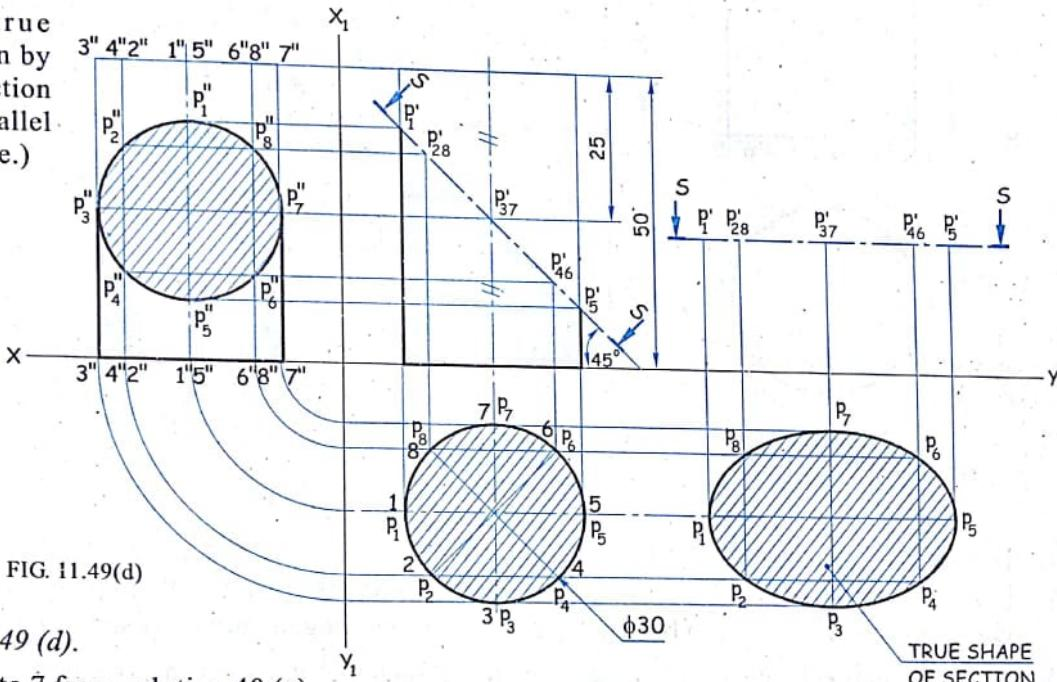

FIG. 11.49(d)
Refer figure 11.49 (d).
- (i) Place the section plane  $S-S$  with the points  $P'_1, P'_2, \dots, P'_8$  parallel to the  $XY$  line as shown in figure 11.49 (d).